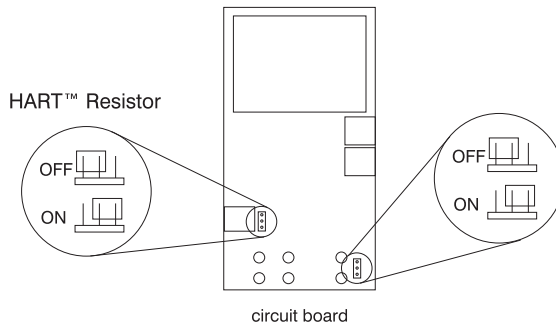

Figure 12.
4. Figure 12. shows the location of the Hart™ jumpers.